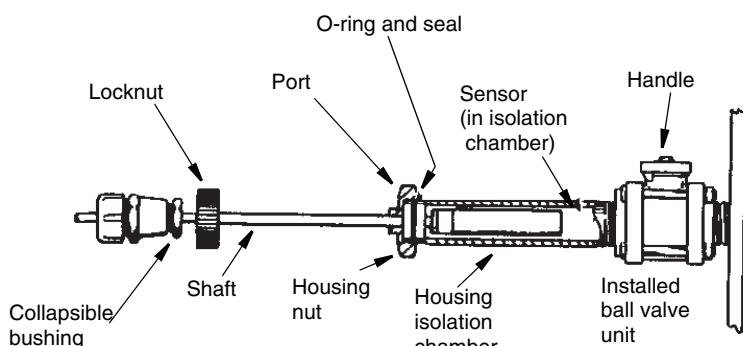

Figure 14. Ball Valve Shaft Installation and Removal
5. Carefully insert the sensor (connected to the insertion shaft assembly) into the housing retraction chamber until the O-ring and seal are seated into the end of the chamber (see Figure 14).
7. Slowly turn the handle on top of the ball valve unit (see Figure 14) to the open position (parallel to the housing as indicated by the arrow on top of the handle).
Do **not** loosen the **housing nut** (see Figure 14) when the ball valve unit is open and the process line or tank is filled and pressurized.